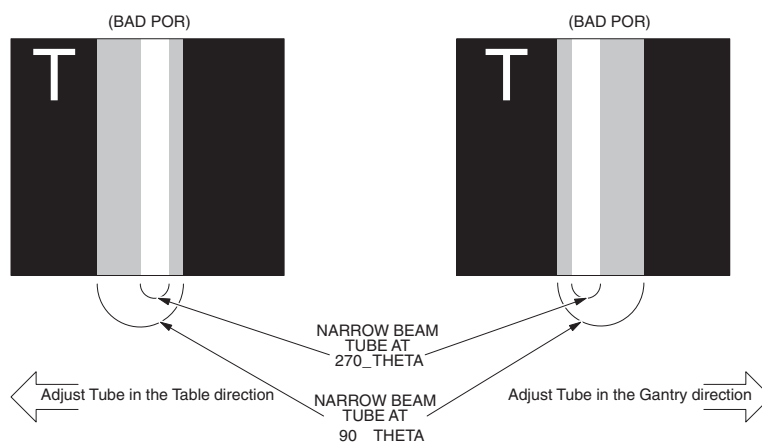
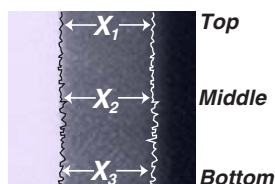

Figure 11-10 Plane of Rotation Film Interpretation
Figure 11-11 XF and XR measurement points
- 7.) Verify the following (see Figure 11-10):
- 8.) Refer to Figure 11-10 and Figure 11-11 during the following instructions. Use a vernier calipers to measure the width of the two wider (dark gray) slits. They're the dark gray slits that extend past the edges of the narrower (off-white) slit and to the blackest part of the film.
- If adjustment is necessary, a clockwise rotation (in) of the adjustment bolt moves the tube toward the table side. Repeat Steps 1 through 9, again, if you moved the tube, to check the accuracy of the adjustment. (Refer to Figure 11-10 for more details.)